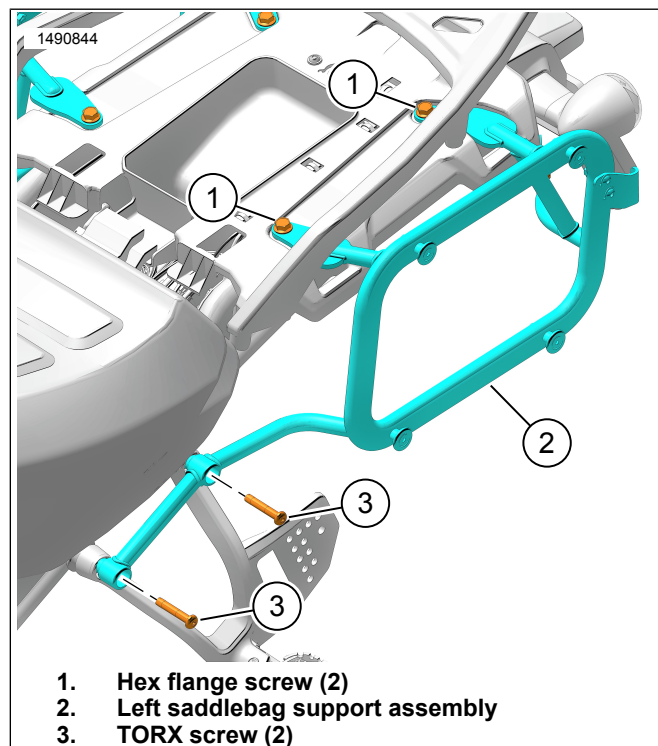
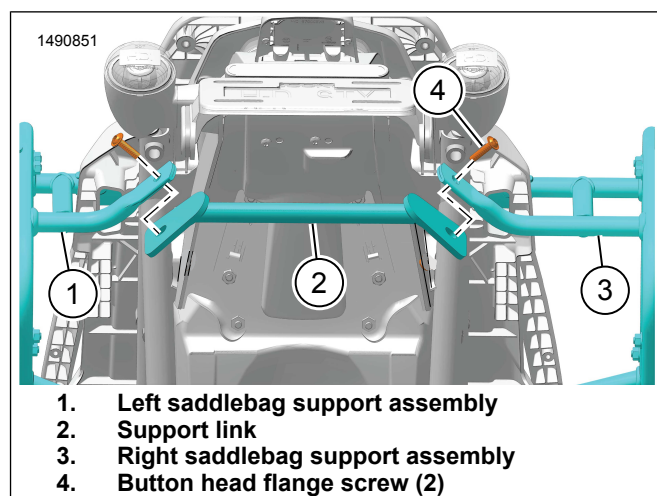

Figure 3. Saddlebag Support Assembly
Figure 4. Support Link
1. See Figure 3. Position passenger footrest and install left saddlebag support assembly (2).
4. See Figure 4. Install support link (2).
5. Install screws (4). Do not tighten completely.
7. See Figure 3. Tighten screws.
- a. Hex flange screw (1):
8. See Figure 4. Tighten button head flange screw (4).